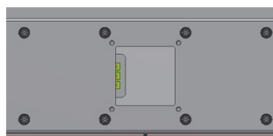

Figure. 2
1. For NEC installation connection to the black (Line), white (Neutral) and green (Ground/ Earth) can be made with appropriate wire connectors outside of the fixture, the connectors can be placed in the fixture through the hub. If terminal blocks are being used, loosen the screws and remove the driver compartment cover. The screws should be retained in the cover by the cover gasket. See Figure 2 for more details
4. Replace the driver compartment cover (KFLH) or access cover (KFL2H). Securely tighten the screws. (40 in-lbs ± 5 in-lbs/4.5N-m ± 0.6 N-m) See Figure 2 for more details.